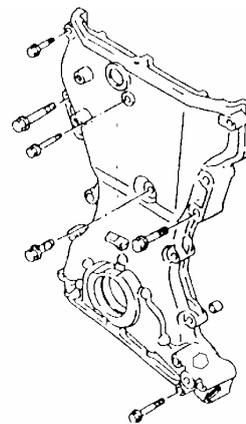

Fig. 4-96
- 5) Unscrew bolt on the synchronous chain cover assy. Remove synchronous chain cover assy. Shown as Fig. 4-96.